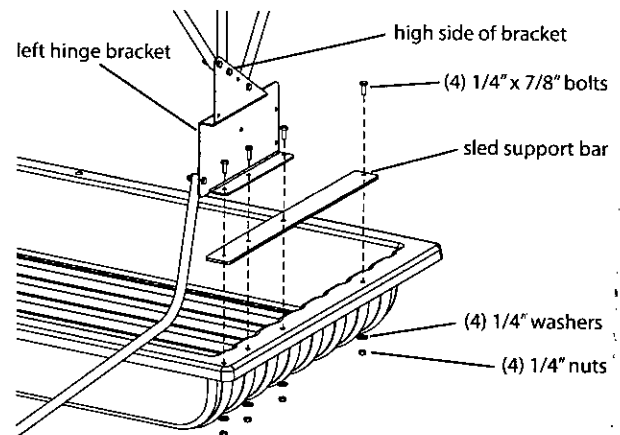

Figure 1A (left side shown)
1. Attach sled support bar (69677) and the left hinge assembly (69309L) to the upper lip of sled using (4) provided 1/4-20 x 7/8" bolts, nyloc nuts and washers. **SEE FIGURE 1A.**
NOTE: Be sure hinge assembly is orientated as shown in **FIGURE 1A**, with high sides of hinges placed to the front of sled and hinge poles to the inside.